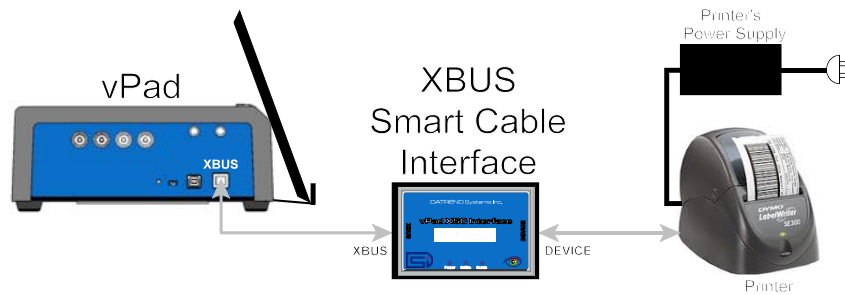

Figure 11 - Schematic showing setup of label printer - wired (serial) interface.
Figure 11 shows the general setup for a wired connection to a supported label printer through a XSC Smart Cable interface. The figure is a schematic representation and is not drawn to scale. Setup instructions are as follows:
- f. Optionally, a wireless XSC may be switched to wired operation. To do so, disconnect the XSC from the vPad and set the "BTENA" switch of the interface to the "OFF" position. This will disable the Bluetooth connectivity of the XSC. A wired connection to the printer may then be set up as shown in *Figure 11*.